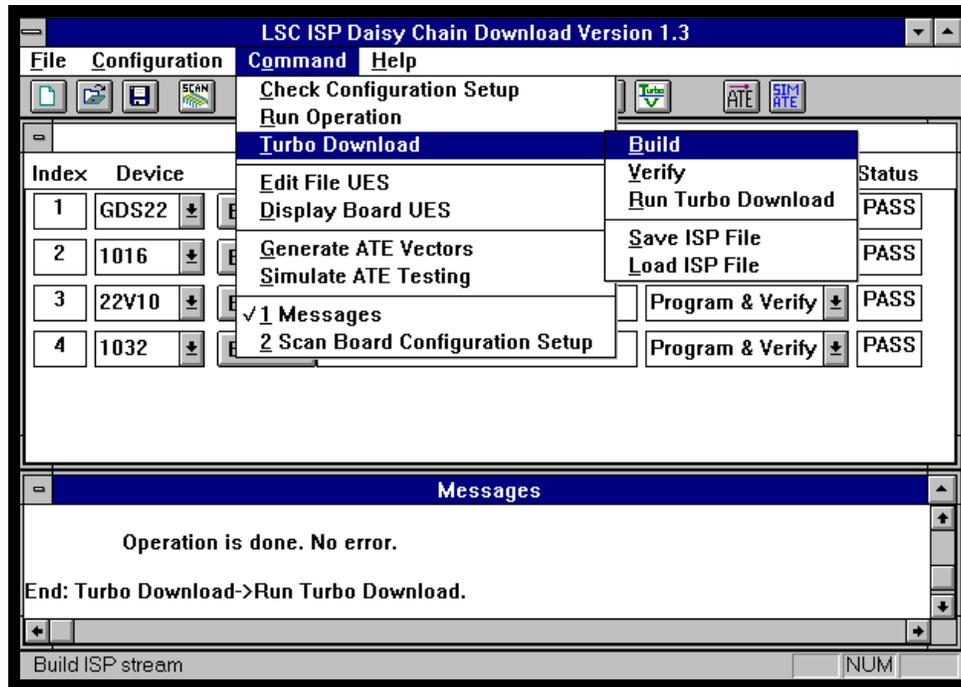

Figure 3-12. **Configuration** ⇒ **Turbo Download** ⇒ **Build** Menu Option
1. Select **Command** ⇒ **Turbo Download** ⇒ **Build** or the **Turbo Build** icon from the ISP Daisy Chain Download menu (Figure 3-12).